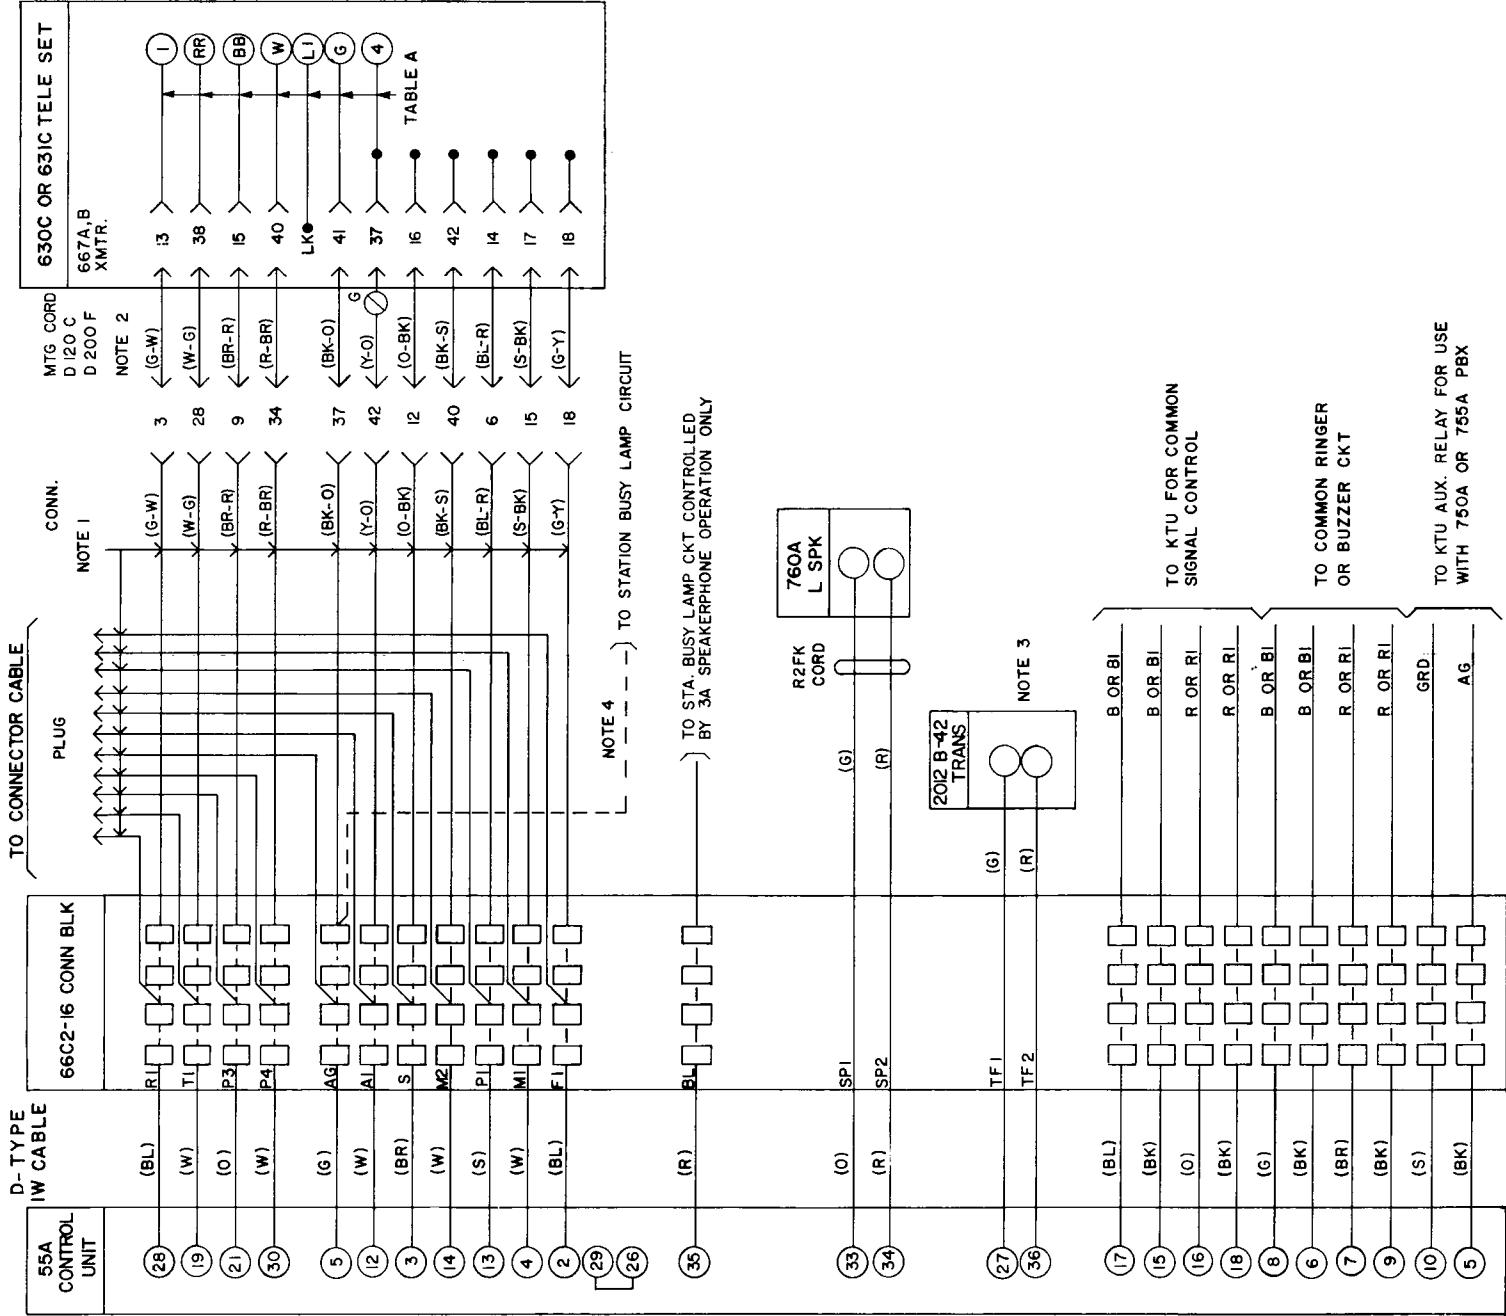

Fig. 3 — 630C or 631C Telephone Sets
- Show connections for 630- and 631-type telephone sets equipped with even-count color-coded cords in Fig. 3.